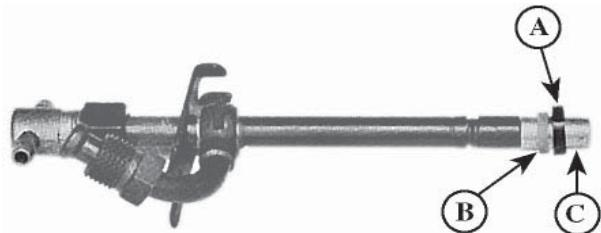

Figure 16
- a. Position JD258 (ROS16477) Pilot Tool (Figure 16-C) over nozzle tip. If Pilot Tool (included in cleaning kit) is not available, use a No. 16189 Nozzle Protector Cap found on every new or replacement nozzle.
- b. Position a new carbon stop seal (Figure 16-B) on pilot tool. Use a new seal washer (Figure 16-A) to help slide the carbon seal into place until it seats in its groove on nozzle body.